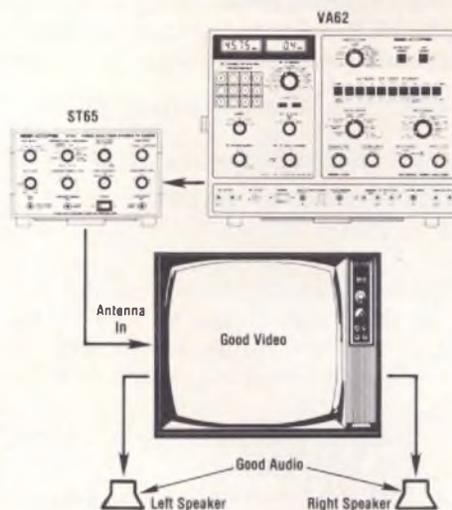

Fig. 4: You'll want to be sure your customer is receiving good video and audio.
Putting the VCR in the pause mode produced a locked-in picture with a noise bar part way through it (Figure 4). Except for the noise bar, the picture no longer pulsed in and out.
**Fig. 4: If a clear picture is observed on part of the screen, suspect a servo problem. If the picture clears up (except for a noise bar) when the VCR is placed in the pause mode, suspect a capstan servo problem.**
**Stereo separation:** This test proves that your customer is getting left and right stereo with good separation and that the dbx and stereo decoders, matrix, and audio circuits are working (Figure 4).